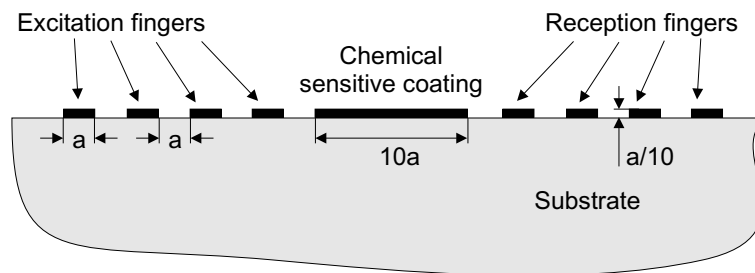

Figure 1: Surface Acoustic Wave sensor
Surface Acoustic Waves (SAWs) propagate along the free surface of an elastic body. The chemical sensor shown in Fig. 1 makes use of the propagation characteristics of SAWs, which vary due to different surface mass loading. The SAW is launched from four excitation fingers by applying forces normal to the surface with alternating sign on neighboring fingers. The SAW travels along the surface of the substrate to a set of receiver fingers, where they are detected. Along this traveling path, a coating material may be applied to the substrate. If the coating is sensitive to a specific substance, its physical properties, like for example the mass, will change depending on the amount of molecules of that particular substance. The change in mass of the coating influences the SAW velocity and, thus, the SAW sensor can be utilized to detect the presence and the amount/concentration of that substance.
- 1.1. Model the plane mechanical geometry as shown in Fig. 1.